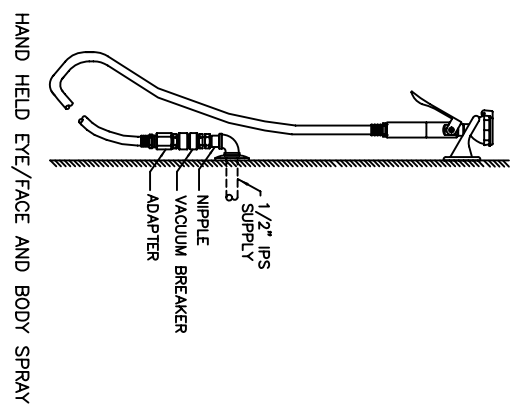

FIGURE 1
3. FIGURES 1, 2, 3, AND 4 SHOW THE INSTALLATION OF VACUUM BREAKER WITH DIFFERENT EYE/FACE AND BODY SPRAY MODELS.